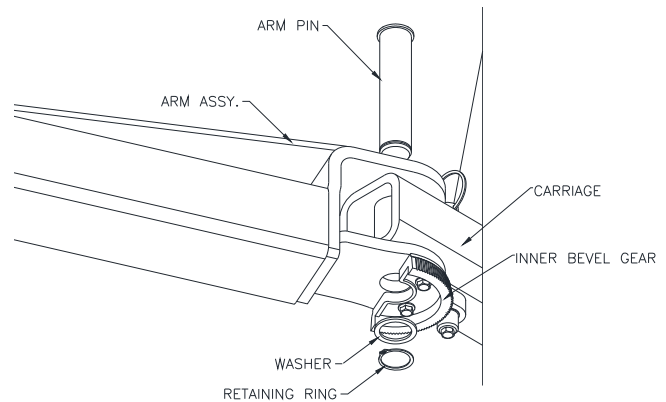

Fig 9 –Arm Pin Keeper Install
- 23) Install the provided retaining ring onto the pin with tool, **Fig 9**.